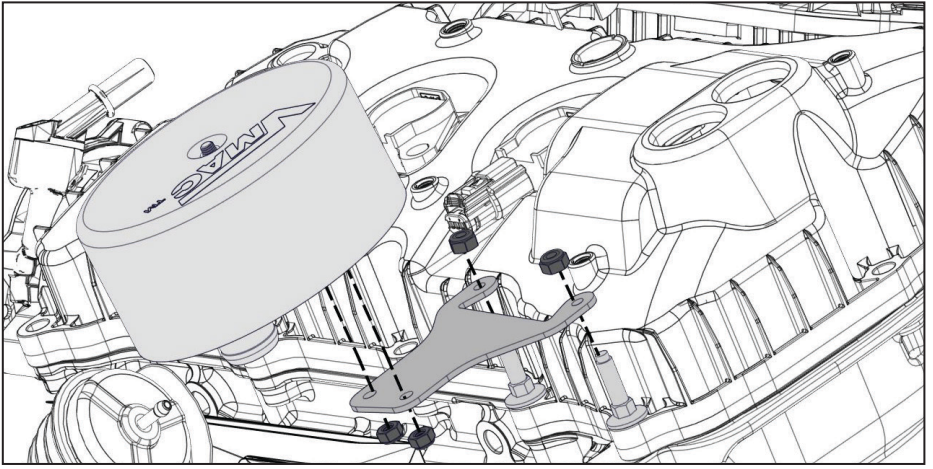

Figure 64 — Air filter and bracket
- Mount the VMAC air filter assembly to the supplied bracket using the supplied M6 nylon lock nuts (Figure 64).
- Using the (x2) supplied M5 nuts, mount the VMAC air filter and bracket assembly to the front valve cover studs (Figure 64).